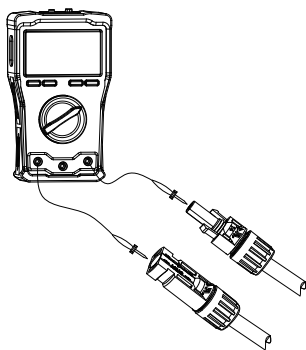
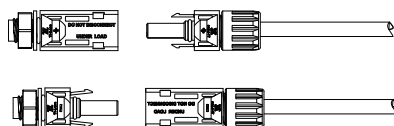

Figure 6-12-5
Figure 6-12-6
Step 5: Use a multimeter to confirm the positive and negative poles. See Fig. 6-12-5. The positive and negative connectors can then be inserted into the PV input of EP800 inverter. See Fig. 6-12-6.